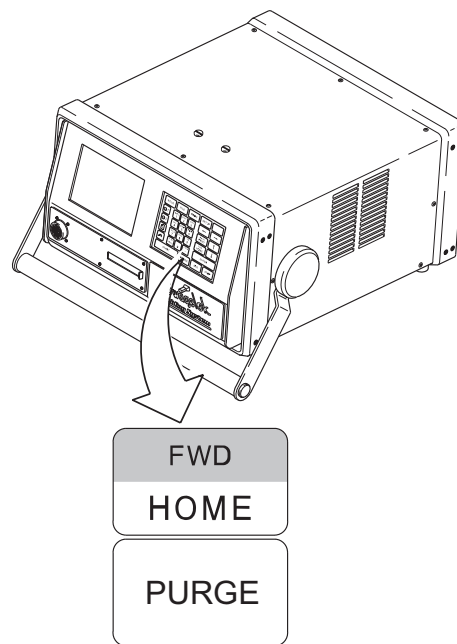

Figure 81 Pushbutton Locations
5. Locate the **HOME** and **PURGE** pushbuttons on the front panel. See Figure 81.